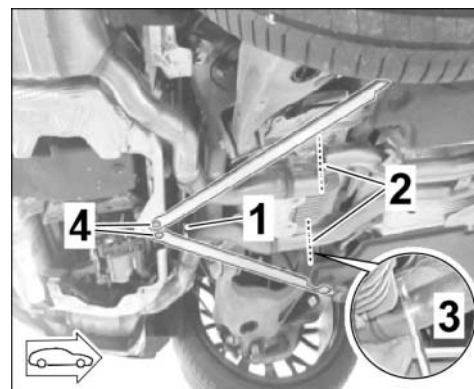

Figure 22
3.1.4 Cut rear silencer at the connection point for the front silencer (marking on underside) using pipe cutters or **body saw** (⇒ *Figure 22*).